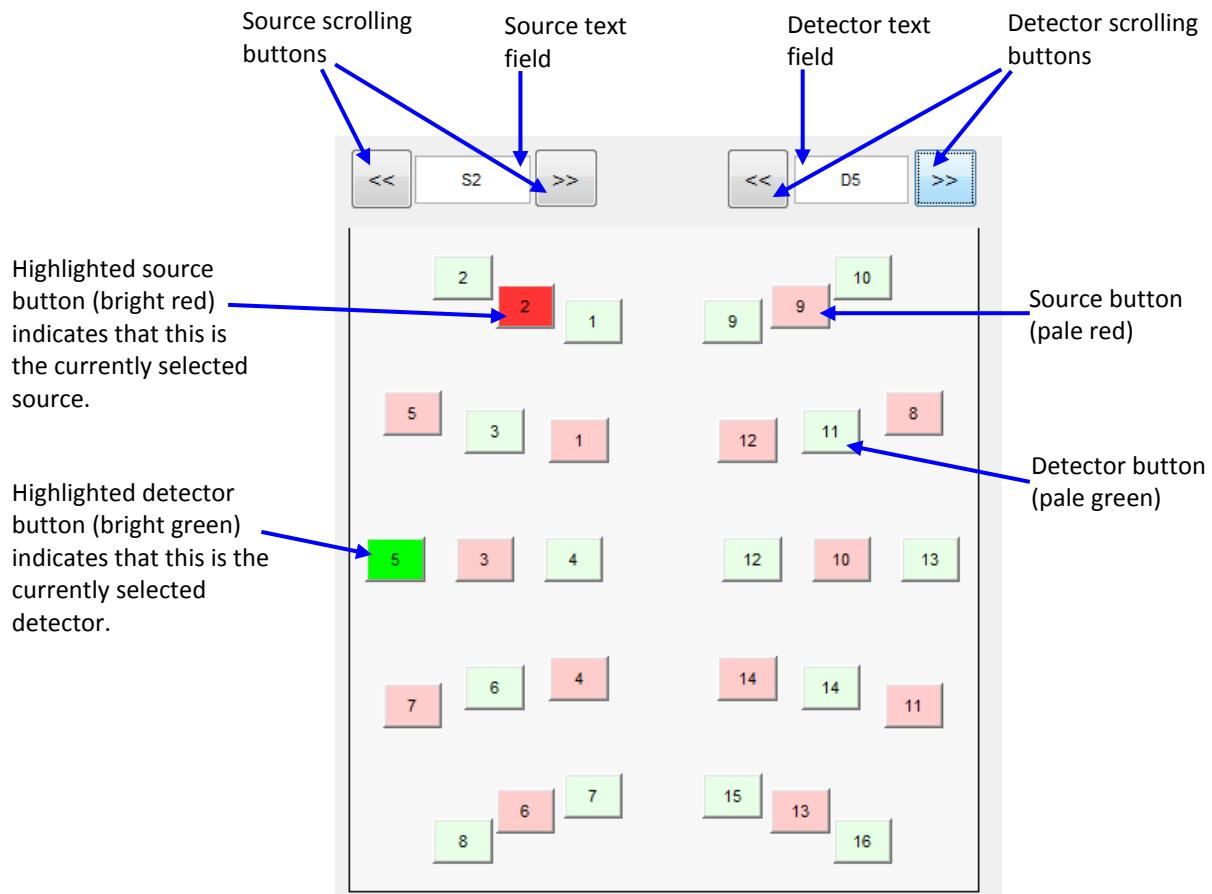

Figure 5-8. Selecting a source-detector channel.
1. Directly type the source and detector numbers in the source and detector text fields. For example, if you want to select the source2-detector5 channel, as shown in Figure 5-8, type 'S2' in the source text field and 'D5' in detector text field. Once entered, the (s2-d5) source-